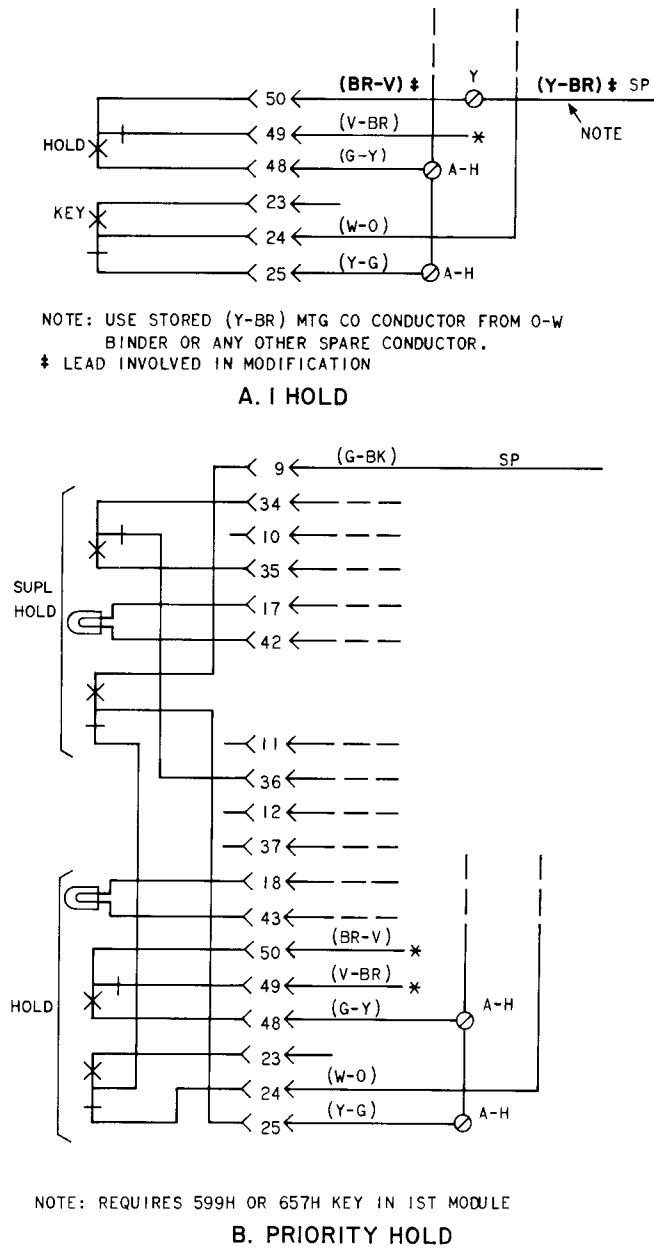

Fig. 4—Supplementary Hold Arrangements
2.06 Supplementary hold can be supplied in two configurations (Fig. 4). **Priority Hold** requires a 599H key in the first module. **I Hold** requires a wiring modification of the existing hold key. Refer to Division 518 and SD-69530-01 for detailed information on this feature.